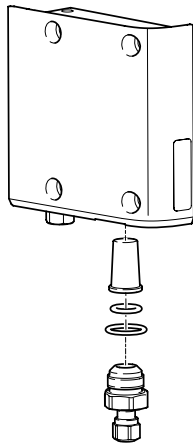

Figure 4-14. Fuel supply components.
- Inspect and clean all components. See figure 4-14.